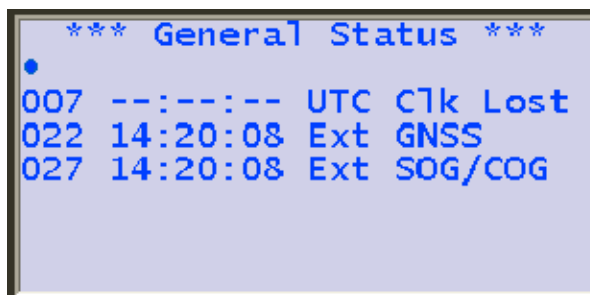

Figure 2-17. General Status Screen
- (1) Press the FNC key.
- (2) Press the NAV key. The AIS Main System Menu screen will appear.
- (3) Using the down Arrow key, select View General Status, and press the ENT key. The General Status screen will appear. (Refer to Figure 2-17.)
- (4) Press the ESC key to return to the AIS Main System Menu screen.